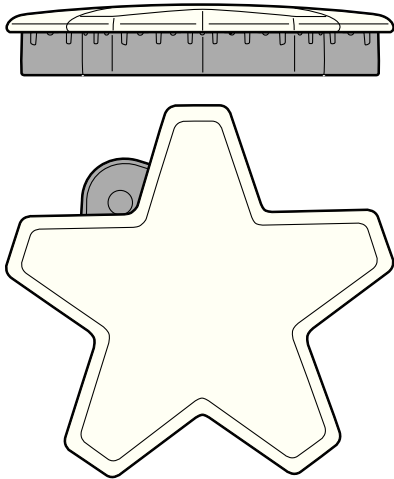
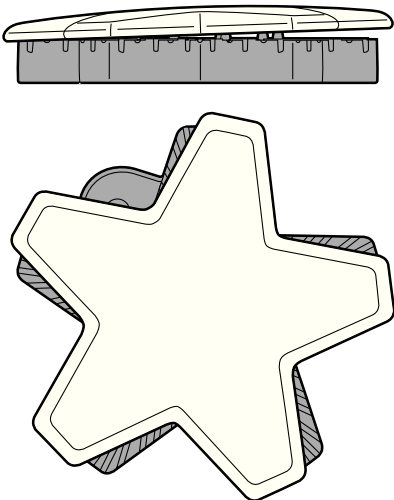

Figure 15: Correct Burner Cap Placement
Figure 16: Incorrect Burner Cap Placement
Each STAR® burner has its own electronic igniter that sparks when the burner is turned on. Each burner should light in 4 seconds or less. If a burner does not light, check to see that the burner cap is positioned correctly on the base (see Figure 15 and Figure 16).
- Check each burner to make sure there is no gap between the burner cap and burner base. See *Figure 15* and *Figure 16* for examples of correct and incorrect placements of the burner cap.
- You may gently try to move the burner caps from side to side to check if the caps are properly placed on the burner bases. When properly placed, each burner cap will rest flat on top of its burner base, and completely cover the star-shape of the burner base when viewed from the top as shown in *Figure 15*.